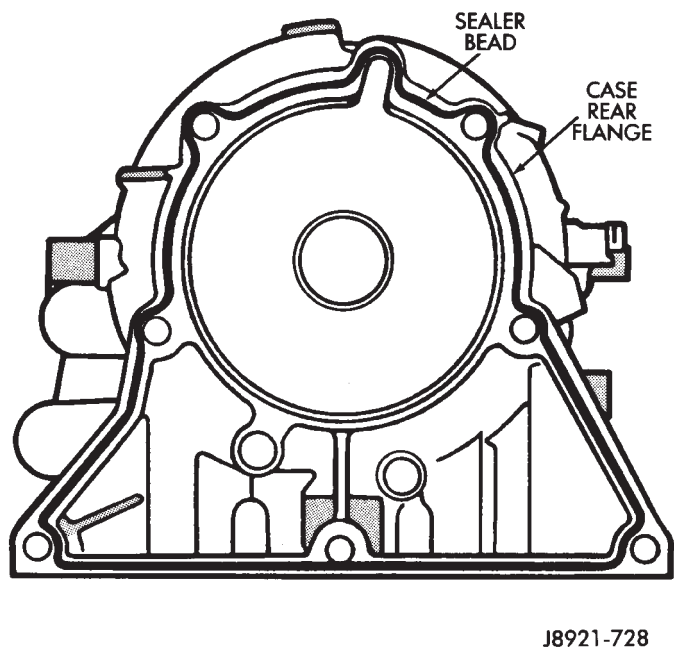

Fig. 65 Applying Sealer To Case Rear Flange
(88) Apply bead of Mopar or Loctite 599 sealer to sealing surface at rear of case (Fig. 65).